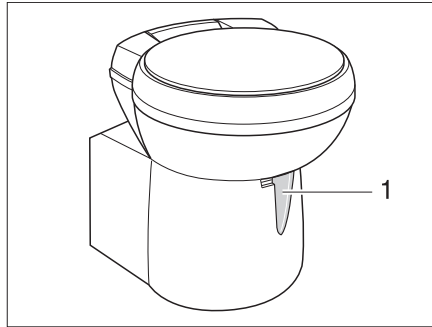
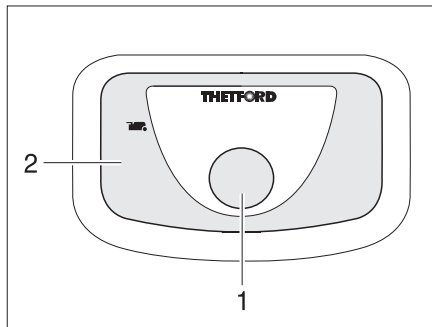

Fig. 351 Thetford toilet bowl, swivelling
Fig. 352 Flush button/indicator lamp
- Before flushing open the sliding trap of the Thetford toilet. To do this, push the slide lever (Fig. 351,1 or Fig. 352,1) in an anticlockwise direction.
- For flushing, press the blue flush button (Fig. 351,1 or Fig. 352,1).
The indicator lamp (Fig. 351,2 or Fig. 352,2) goes on whenever the Thetford cassette has to be emptied.
- Push the slide lever (Fig. 351,1 or Fig. 352,1) in a clockwise direction. The sliding trap is closed. To empty, the sliding trap in the Thetford toilet **must** be closed.